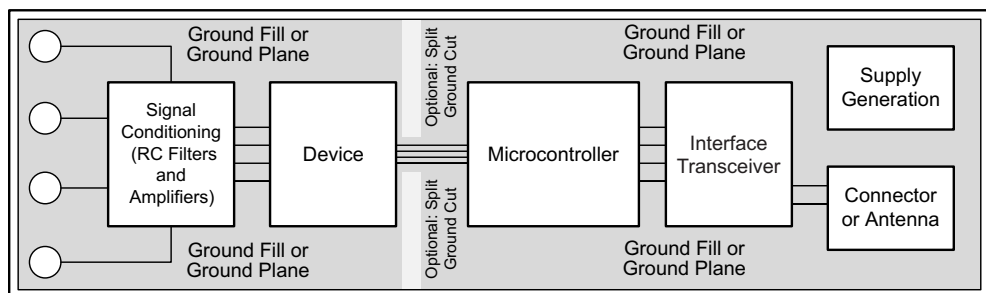

图 28. System Component Placement
Employ best design practices when laying out a printed-circuit board (PCB) for both analog and digital components. For optimal performance, separate the analog components such as ADCs, amplifiers, references, digital-to-analog converters (DACs), and analog MUXs from digital components such as microcontrollers, complex programmable logic devices (CPLDs), field-programmable gate arrays (FPGAs), radio frequency (RF) transceivers, universal serial bus (USB) transceivers, and switching regulators. 图 28 shows an example of good component placement. Although 图 28 provides a good example of component placement, the best placement for each application is unique to the geometries, components, and PCB fabrication capabilities. That is, there is no single layout that is perfect for every design and careful consideration must always be used when designing with any analog component.